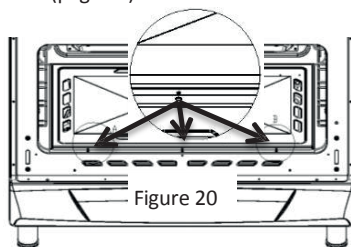

Figure 20
- Remove the screws at the market points (Figure 20).